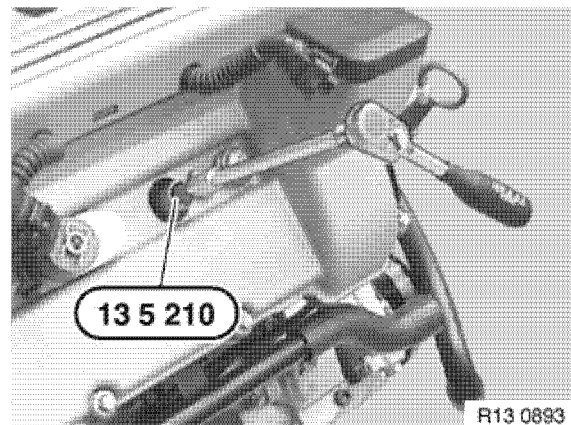

Figure 6-15
8. Use a socket wrench to turn tool while applying light pressure (**Figure 6-15**).